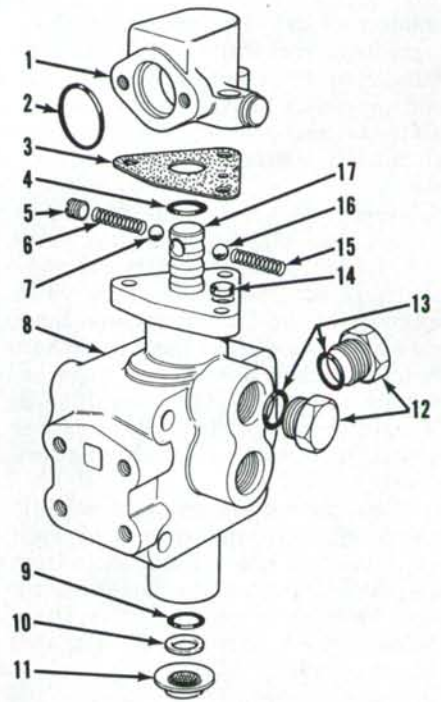

Fig. 271—Exploded view of three-way valve showing component parts and their related positions.
340. The three-way valve (Fig. 271) is mounted on end of rockshaft cylinder and is used to control flow of oil to either rockshaft cylinder or to single acting remote cylinder. The valve control lever can be moved to four different positions: 1, 2, L and L/I.
Valve spool (17—Fig. 271) and body (8) are serviced as a complete unit only. Make certain breather (11) is clean and not damaged. Renew "O" rings and lubricate all parts with hydraulic oil during assembly.